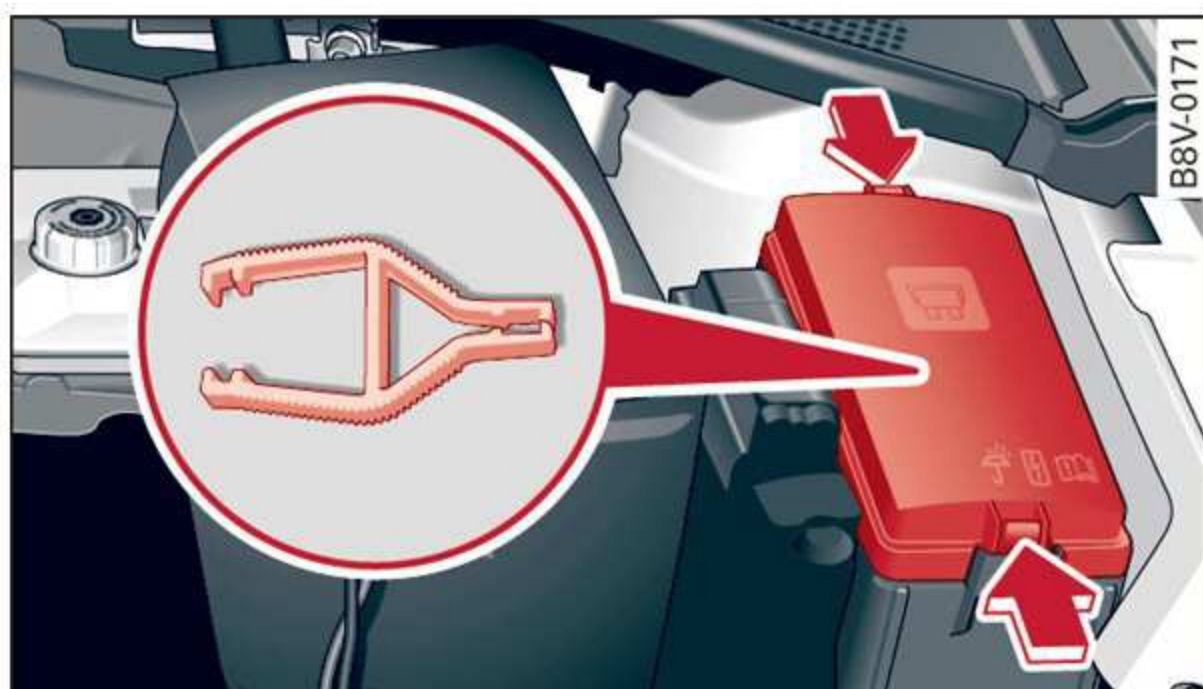

Fig. 201 Left side of the engine compartment: fuse cover
- ▶ Remove the plastic clip from the fuse panel cover in the engine compartment ⇒ *fig. 201*.
- ▶ Remove the fuse panel cover ⇒ *fig. 201*.
- ▶ Remove the plastic clip from the fuse panel cover ⇒ *fig. 201*.